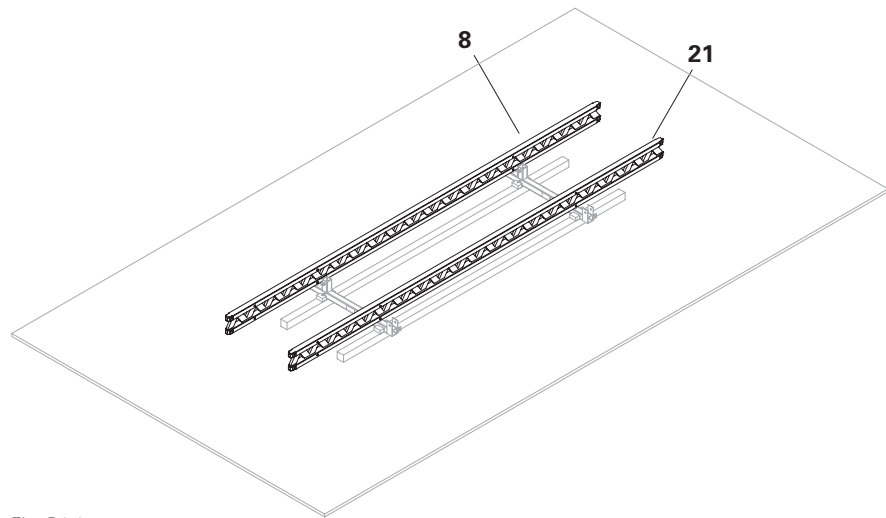

Fig. B6.05
2. Place the Formwork Girders GT 24 (**21**) on the Finishing Platform Beams ACS (**8**) as platform beams and align them. (Fig. B6.05)